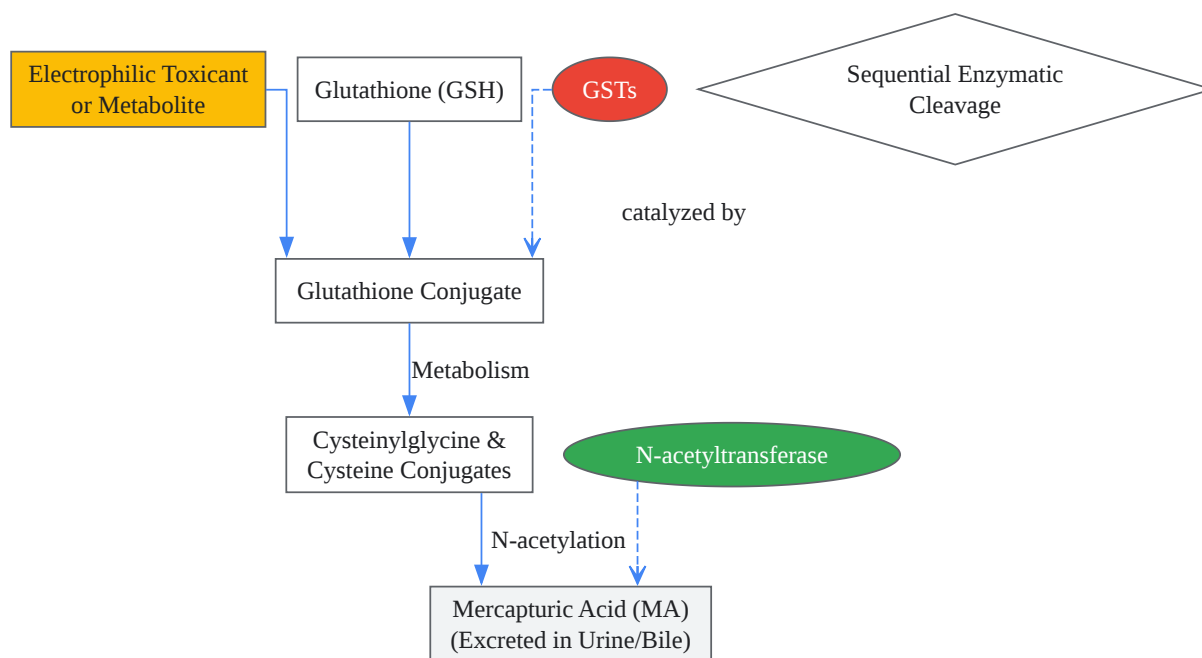

Figure 1. Simplified Metabolic Pathway of Mercapturic Acid (MA) Formation.
Caption: Figure 1. Simplified Metabolic Pathway of Mercapturic Acid (MA) Formation.